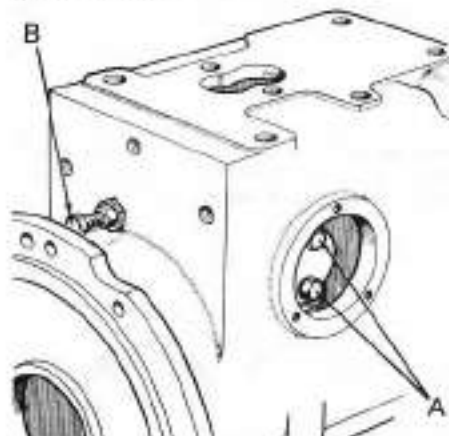

Fig. 197 — To remove control valve assembly, unbolt pressure line at (A) and unscrew lubrication line retaining set screw (B) 9 turns.
brake linkage from lower end of hand brake lever. Unbolt and remove control lever housing from front of rear axle housing; it may be necessary to loosen or remove quadrant to remove all four housing bolts. With control lever housing removed, remove the two cap screws (A—Fig. 197) retaining pressure pipes to control valve housing. Loosen locknut while holding set screw (B), then back set screw out nine turns. Note: Do not turn set screw out more than 9 turns as lubrication pipe will be disengaged. Disconnect flexible cable from top link sensing unit, then remove sensing unit and place temporary cover over opening in PTO housing to prevent dirt from entering system. Disconnect
With rockshaft and bracket assembly removed, unbolt and remove control valve from right hand bracket. Valve housing may be a tight fit on the locating dowels. To reinstall control valve, reverse removal procedure. Note: If set screw (B—Fig. 197) does not turn fully back into same position (9 turns) as before, loosen the set screw and relocate lubrication pipe. Refer to paragraphs 242 through 249 for necessary readjustments and to paragraph 241 for bleeding the system after reassembly.